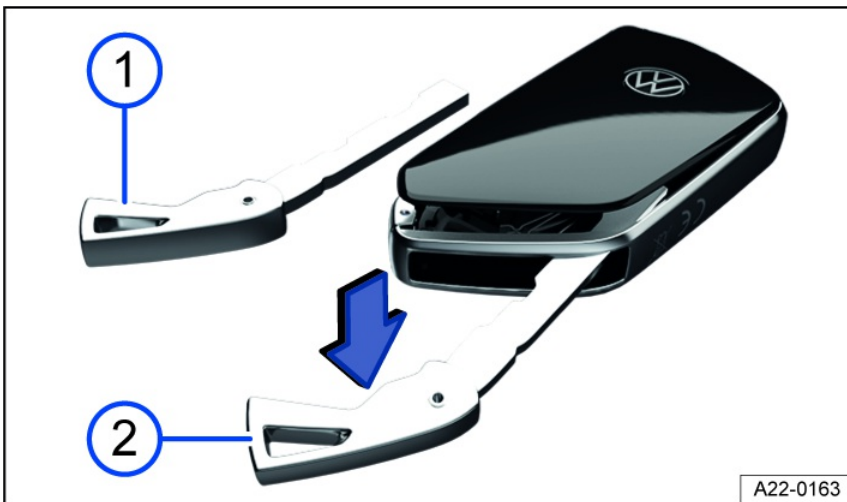

Fig. 41 Remote control vehicle key: opening the battery compartment cover.
1. Remove the emergency key fig. 41 , ⇒ Emergency key.
2. Insert the spare key in the slot, push it in the direction of the arrow and lever out the cover fig. 41.